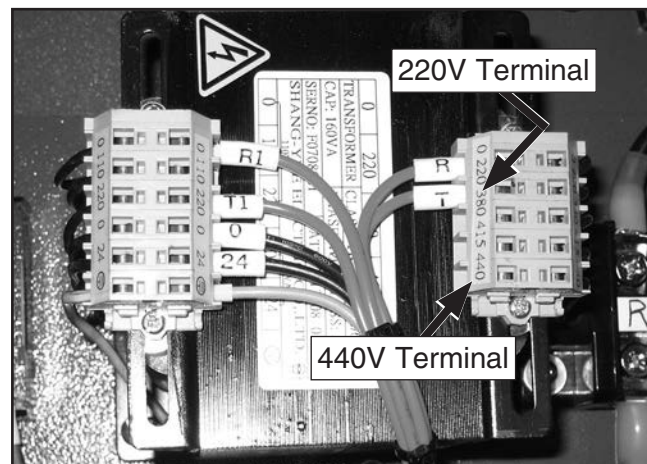

Figure 3. "T" wire connected to 220V post.
3. Remove the wire labeled "T" at the 220V terminal of the transformer (see **Figure 3**) and connect it to the 440V terminal.